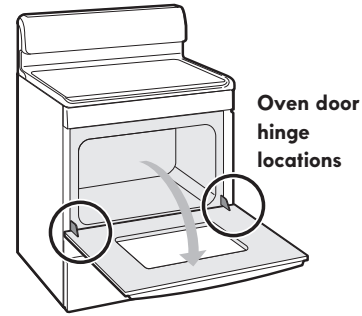

Figure 20: Oven hinge locations
1. Open oven door completely (horizontal with floor - Figure 20).
3. Fully open the oven door (horizontal with floor - Figure 20).